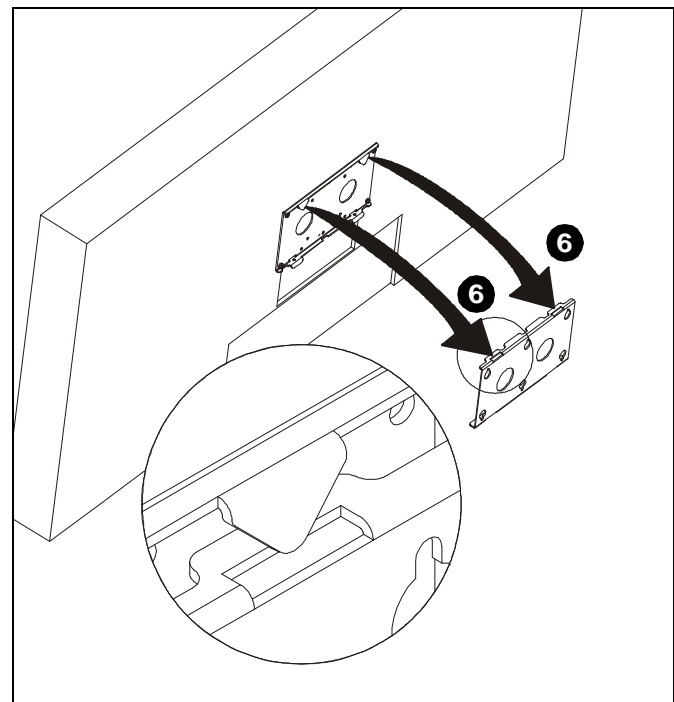

Figure 10
- Partially insert upper tabs on front plate into upper slots of wall bracket. (See Figure 10)